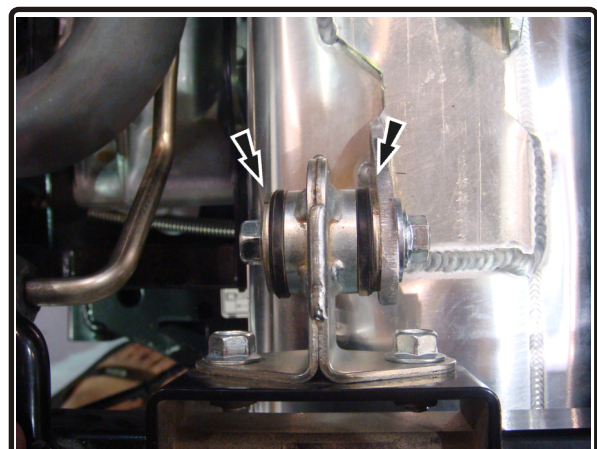

Fig 3
- Note:** Remove stock spacer on rear muffler mount and install on opposite side of mount. (See Fig 3)